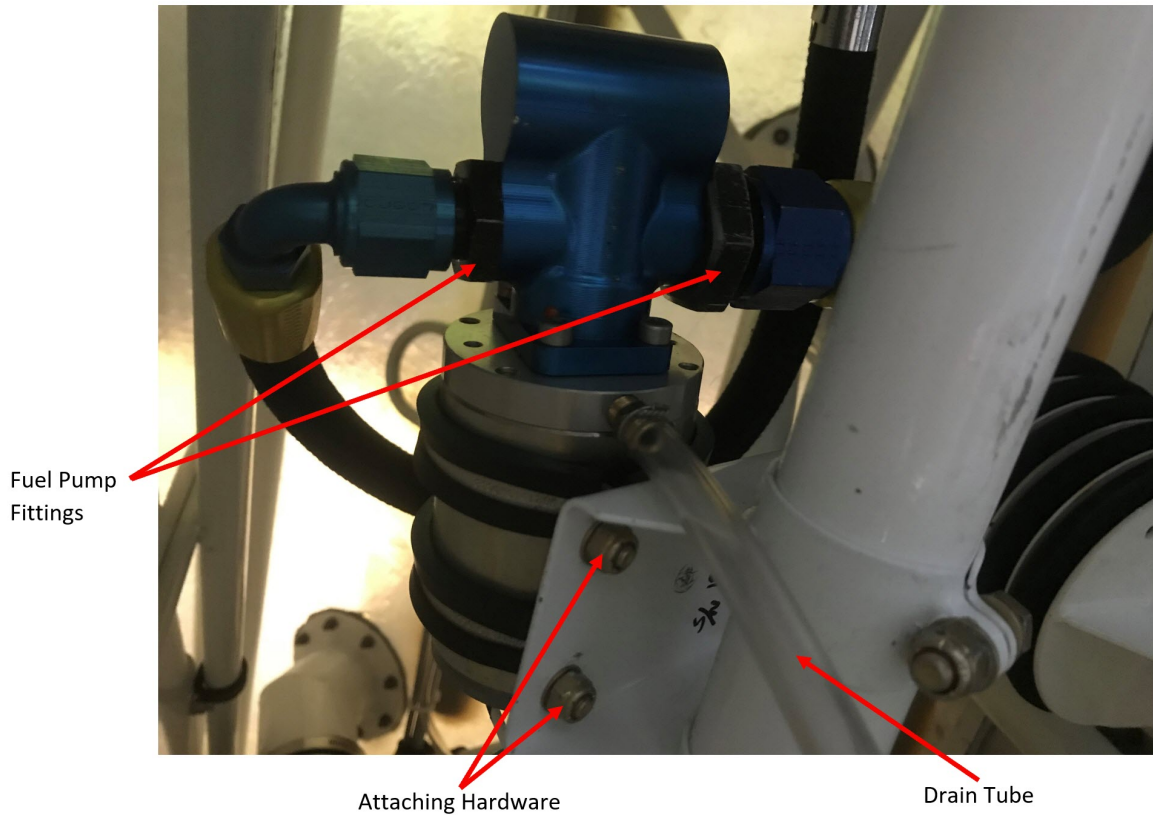

Figure 72-3
- 4) Main Fuel Pump removal. (Refer to Figure 72-3 for the following steps).